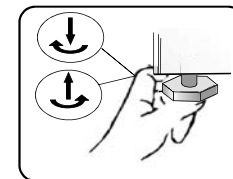

Fig. 1a
**Step 4:** Rotate the two front levellers, provided below your refrigerator, clockwise to raise the front and anticlockwise to lower it (refer fig.1a). The front should be slightly above the rear so that the door shuts gently when left open.